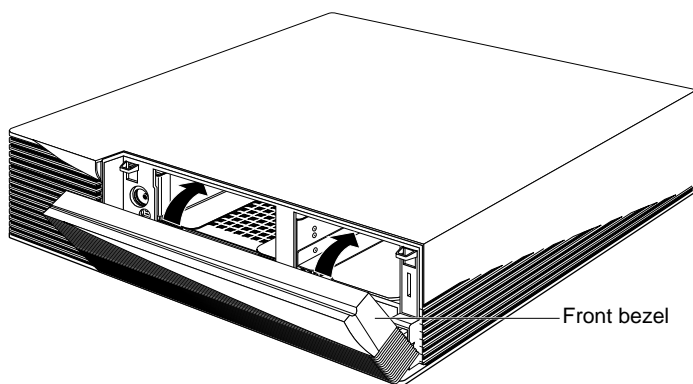

Figure 3-18 Replacing the Front Bezel on the Indigo² Chassis
- Place the tabs on the bottom of the bezel in the grooves in the front of the chassis, as shown in Figure 3-18.